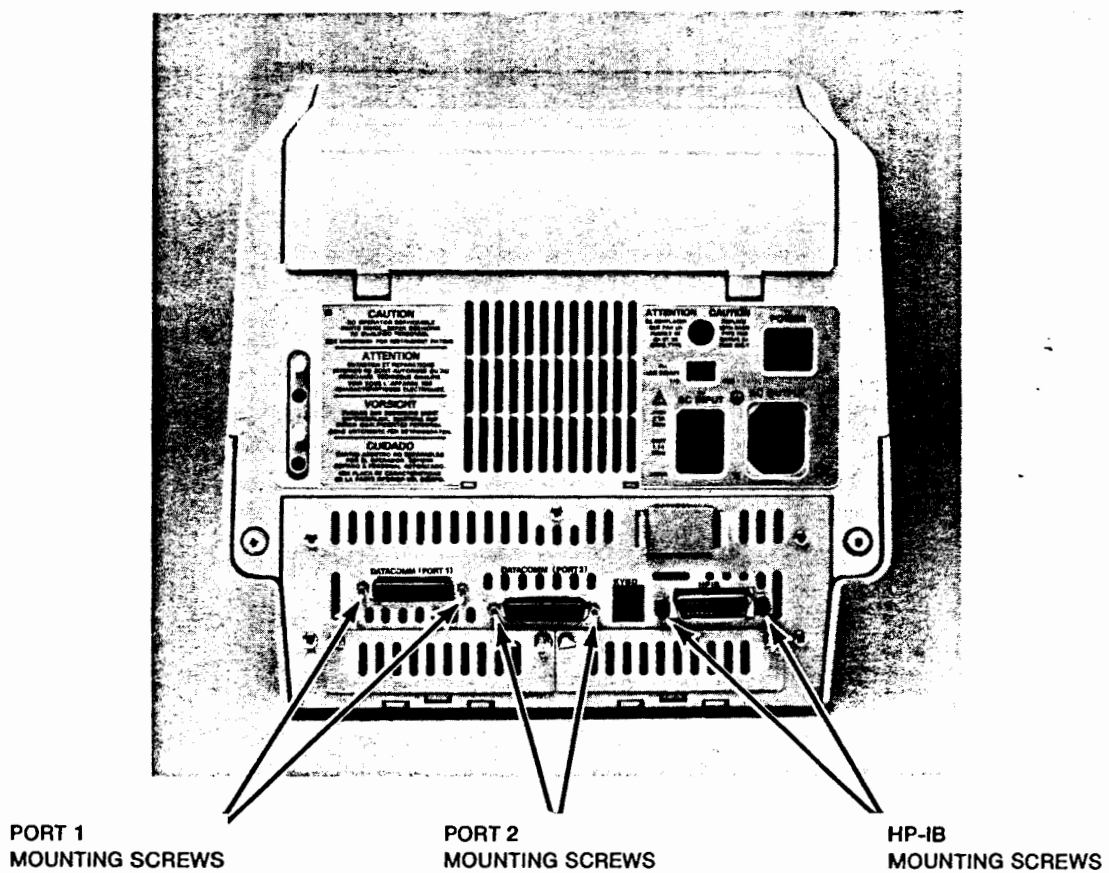

Figure 8-3. Rear View of HP 150
1. Using a 3/16 hex nut driver, remove the mounting screws from the port 1 and port 2 datacomm connectors. Using a 9/32 hex nut driver, remove the mounting screws from the HP-IB connector (see figure 8-3).